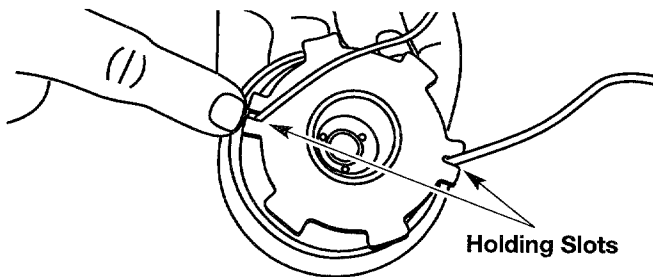

Figure 28
- Insert the ends of the line into the two holding slots. See Figure 28.